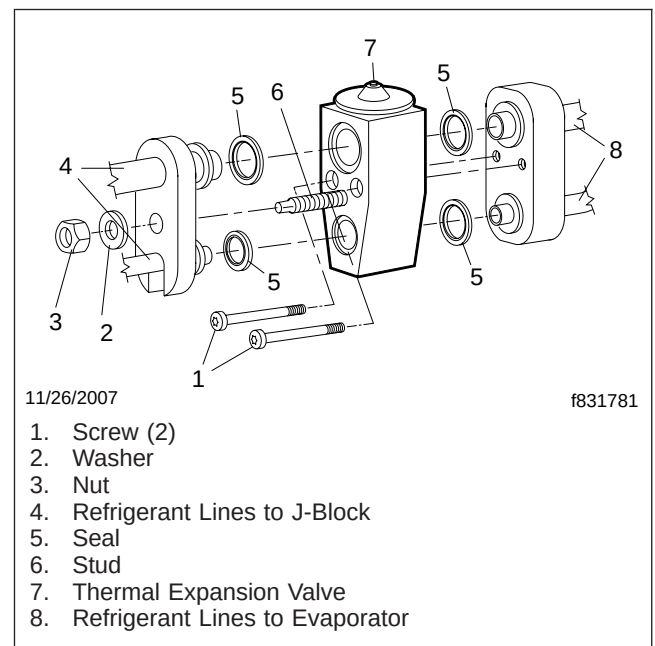

Fig. 2, Thermal Expansion Valve Installation
7. Remove the two fasteners and thermal expansion valve from the plate on the evaporator lines. See Fig. 2.